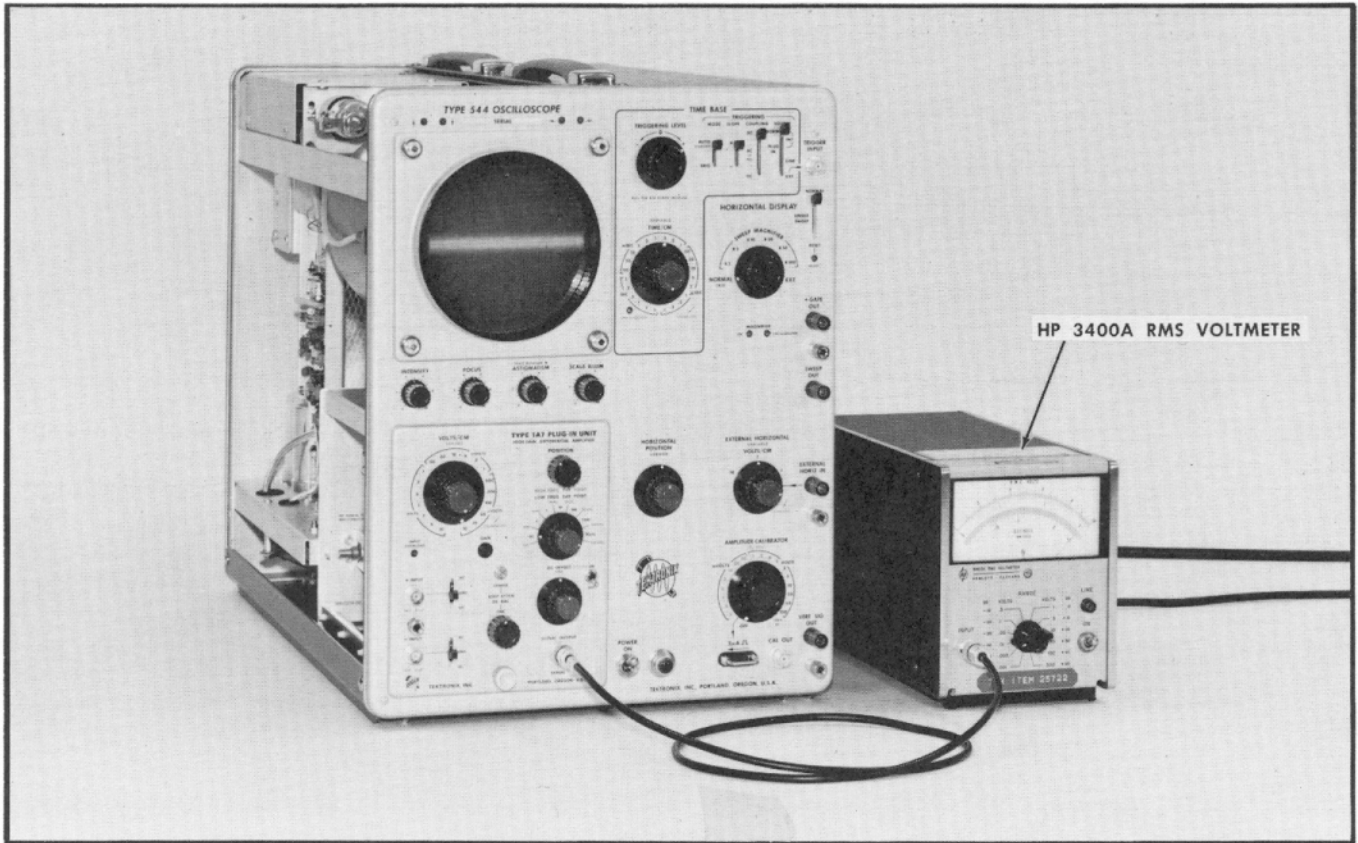

Fig. 6-45. Setup at completion of step 31b.
b. Connect an rms voltmeter between the SIGNAL OUTPUT connector and ground. Fig. 6-45 shows the setup. The voltmeter reading should be 10.2 mV or less. (If an average reading rms calibrated voltmeter is used, a correction factor of 1.13 must be applied to the noise measurement. To obtain the true rms value, multiply the reading by 1.13. Thus, the average reading rms calibrated voltmeter should read 9 mV or less.)